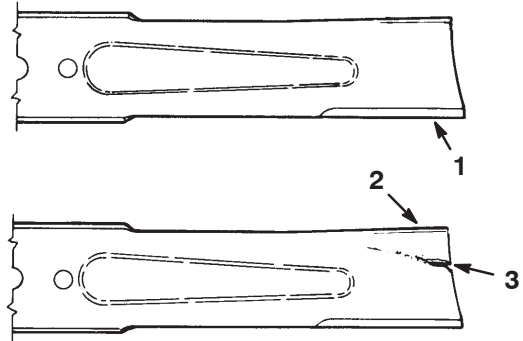

Figure 31
2. Inspect the cutting edges (Fig. 31). If the edges are not sharp or have nicks, remove the blades and sharpen them; refer to Sharpening the Blades on page 28.
3. Inspect the blades, especially the curved area (Fig. 31). If you notice any damage, wear, or a slot forming in this area (Fig. 31), immediately install a new blade.